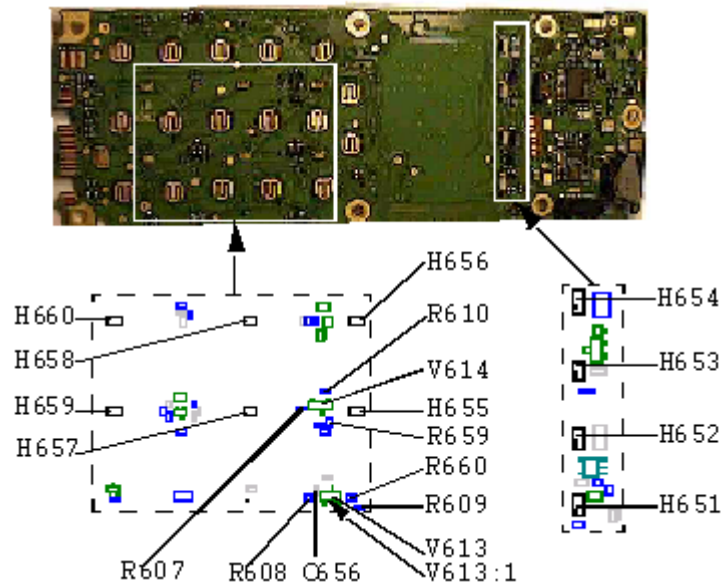

Fig. 9.3
Open the phone and check for liquid damages. Make sure all the LEDs, H651-H660 (class A, fig. 9.3), are mounted and properly soldered.
If H655 and H656 aren't lit, measure the resistance of R659 (33 ohms, class A, fig. 9.3).
- **R610** (47 ohms, class A, fig. 9.3) for H655-H660. If it's ok, replace V614 (class A, fig. 9.3).
- **R660** (0 ohms, class A, fig. 9.3) and R609 (27 ohms, class A, fig. 9.3) for H651-H654. If they are correct, replace V613 (class A, fig. 9.3).
- * If it's incorrect, replace R607 (class A, fig. 9.3). If that doesn't help there's a foil damage and the phone is to be discarded.
- * If it's less, replace C656 (class A, fig. 9.3).
- * If it's more, replace R608 (class A, fig. 9.3).